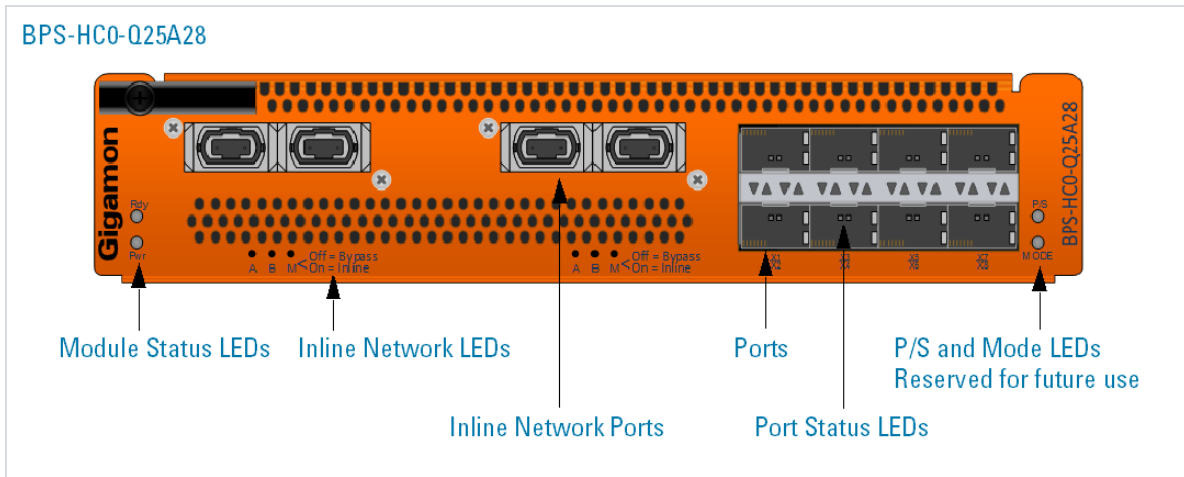

Figure 16: Bypass Combo Module BPS-HC0-Q25A28
- Bypass Combo Module with two SR4 (50/125µm multimode) inline network port pairs and eight regular SFP+ port cages (BPS-HC0-Q25A28). The module also supports 4x10Gb breakout mode which when configured will support eight inline network port pairs. Refer to Figure 16: Bypass Combo Module BPS-HC0-Q25A28 on page 25.